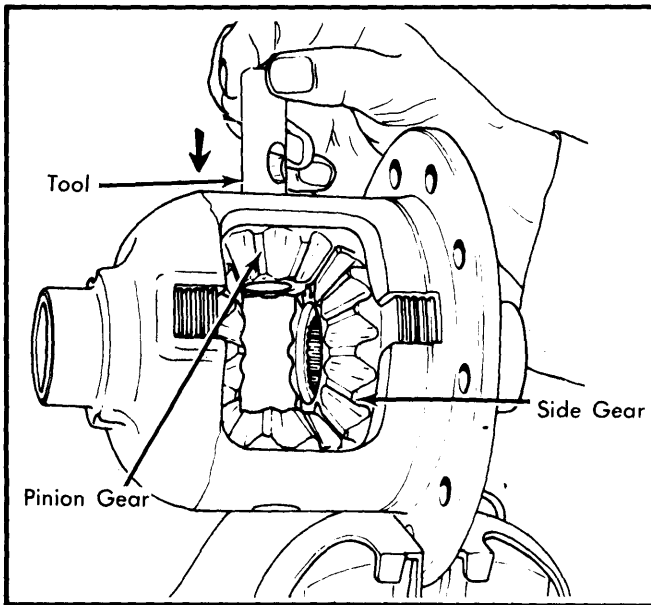

Fig. 5 Pinion and Side Gear Installation
6) Mount the differential case in a soft-jaw vise and place the clutch packs and side gears in their proper cavities in the differential case. Place pinion gears and thrust washers on the side gears, install suitable tool (T80P-4205-A) or equivalent in the differential case. See Fig. 5.